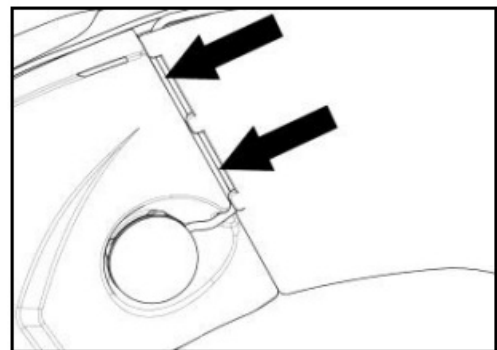

Fig. 19
- Position the microphone wire in the vertical groove (Fig. 19) and afterwards behind the cheek pad lining. If necessary, lift up the groove tabs and the cheek pad lining using a flat head tool (supplied as standard equipment).